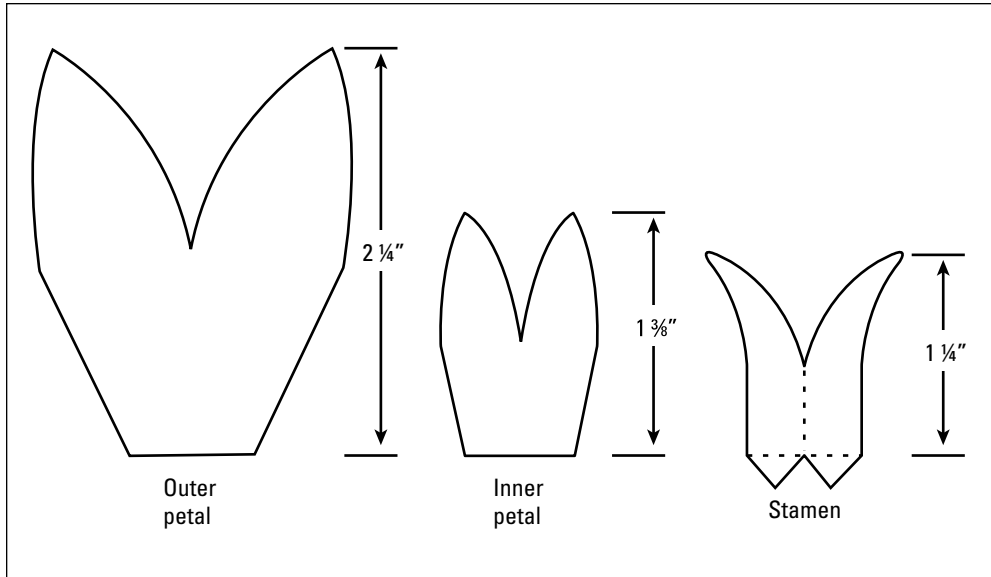

Figure 9-1:
1. Copy the templates from Figure 9-1 onto a sheet of card and cut them out.